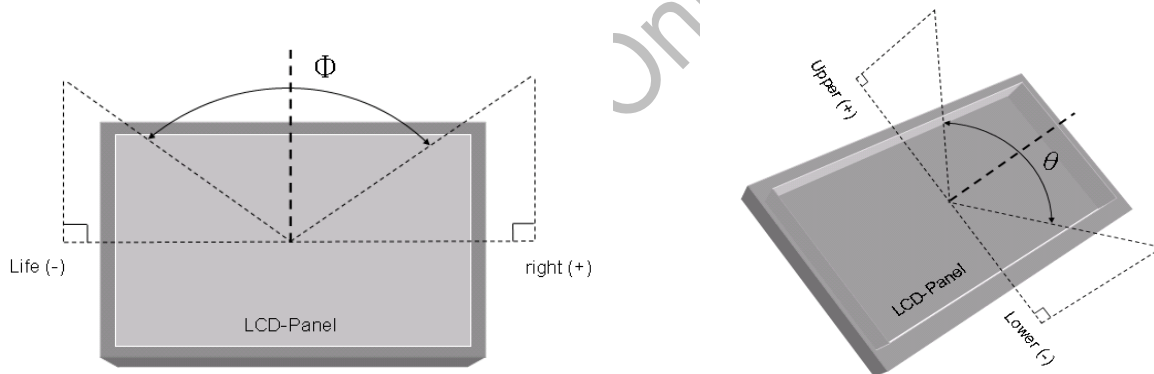

Fig9-2 Definition of Viewing Angle
*4) Definition of Viewing Angle(θ, ψ), refer to Fig9-2 as below : (in the dark room.EZ-CONTRAST (ELDIM))